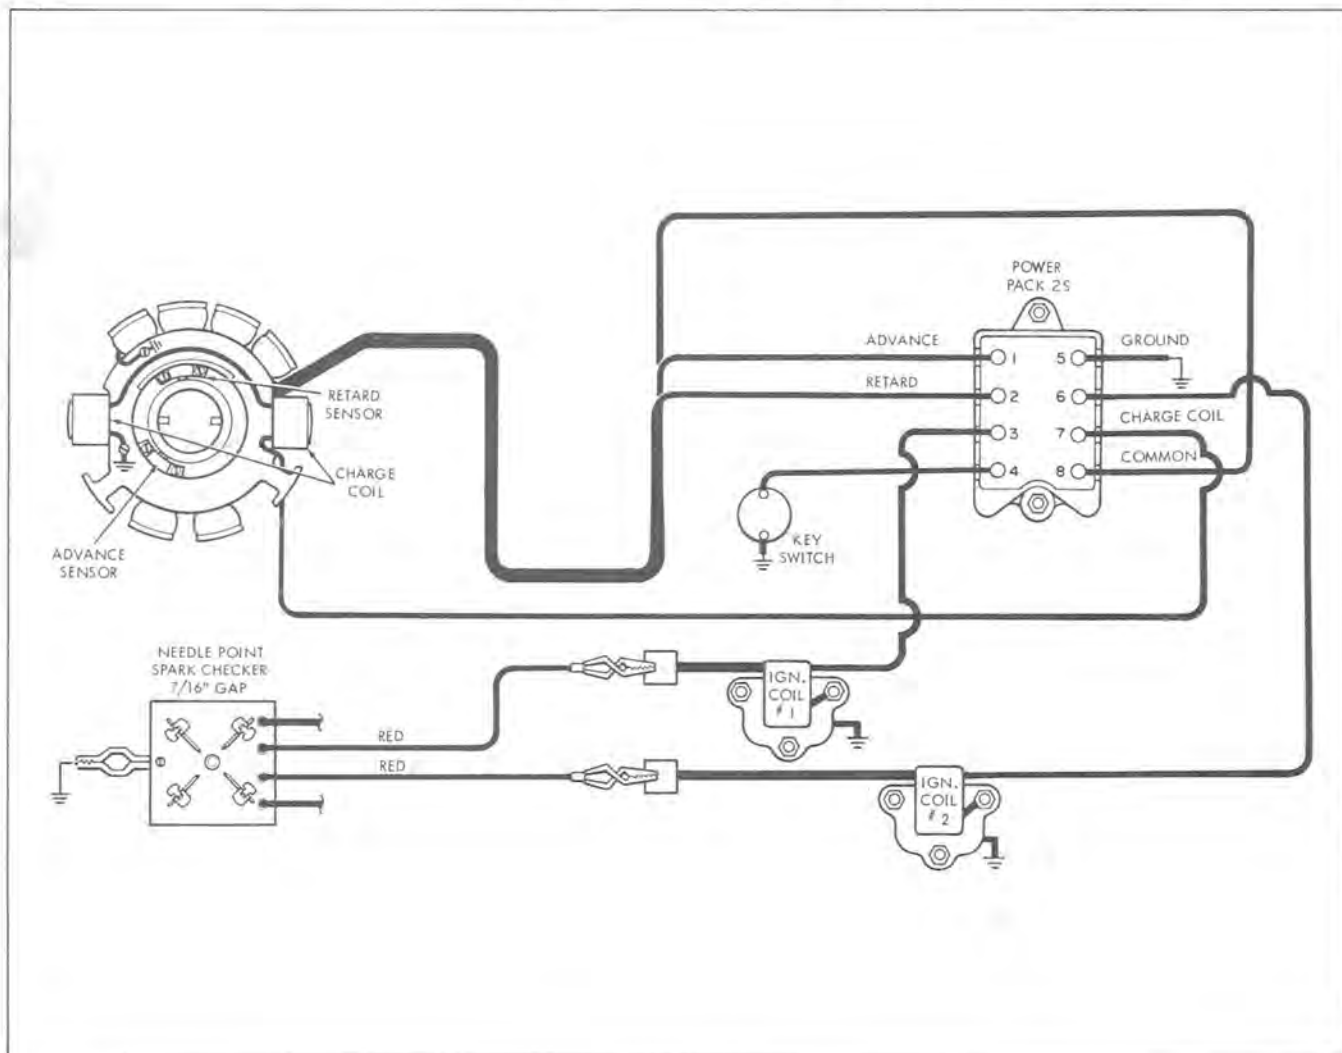

Figure 7-11
- B. Connect spark gap checker with 7/16" gap. See Figure 7-11 (See optional Kilovolt test).